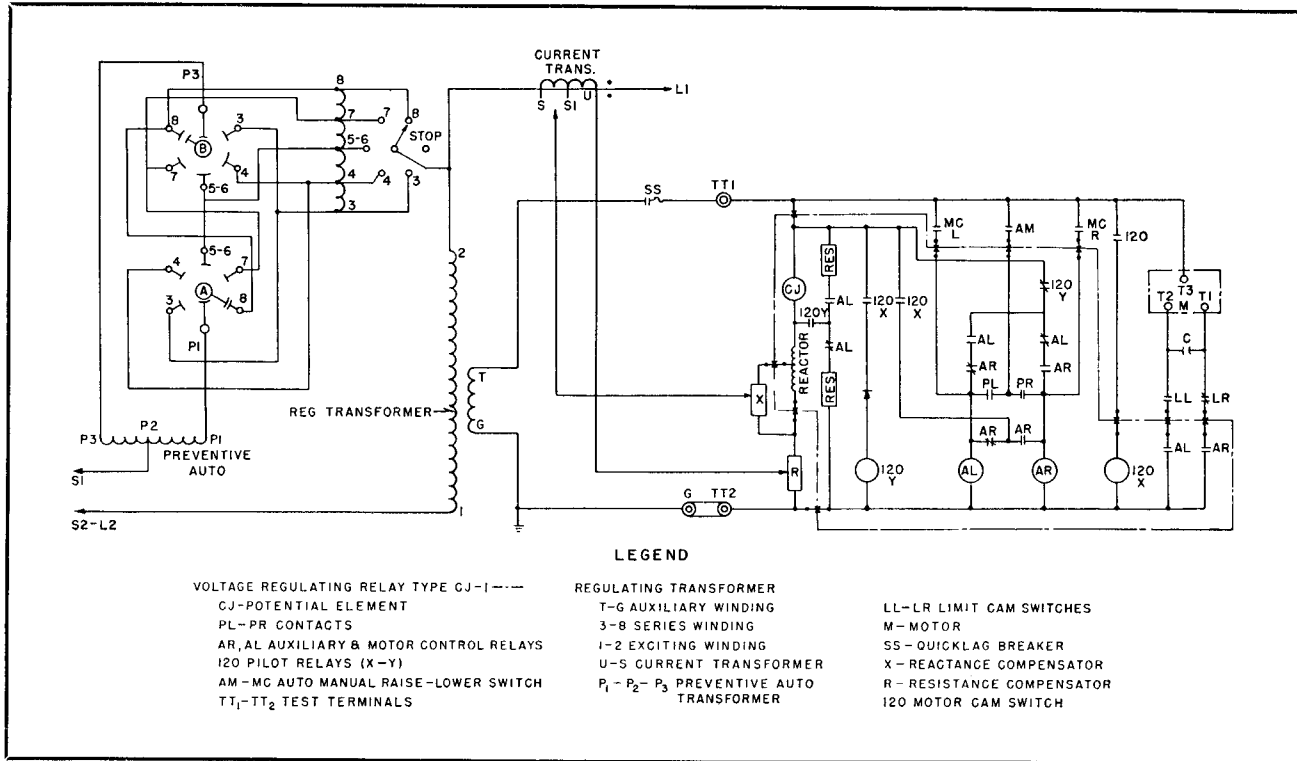

FIG. 16. Schematic Diagram of URL-8 Voltage Regulator.
**Caution:** Extreme care must be taken to insure that the safety switch is in the "OFF" position, and link TT2-G disconnected, before applying test voltage, otherwise the regulating transformer may become energized in reverse through the auxiliary winding, producing high voltages. (See Fig. 16).
**Tap Changer.** The diagram of connections of the Type URL-8 Voltage Regulator is shown schematically in Fig. 16. This diagram may vary slightly with different installations. For any particular regulator, the diagram as listed on the regulator instruction plate should be used for detail connections. The connections given on the instruction plate do not show the control circuits.
The taps from the regulating windings of the transformer (leads from 2 through 8) are brought to the no-load tap selector switch (See Figs. 16 and 17) for manual selection of the range of regulation, and to the load tap changer contacts for automatic tap changing within the range selected. The various combinations of buck and boost are shown in the Table of Connections, page 17. The last column of this table shows the neutral position that applies to each operating range of the tap selector. When by-passing the regulator, operate the load tap changer to the neutral position by means of the manual raise-lower switch on the control panel. Also see
For automatic operation the dial switch is turned to "Auto," closing the AM contact, and connecting the circuit so that the CJ-1 voltage regulating relay initiates the tap changer operation. See Fig. 16 and I.L. 47-431-1.
3. If motor control relay is closed, check to see that all contacts on the relay are making contact and that voltage appears across the motor leads (T3-LL or LR in Fig. 16.)